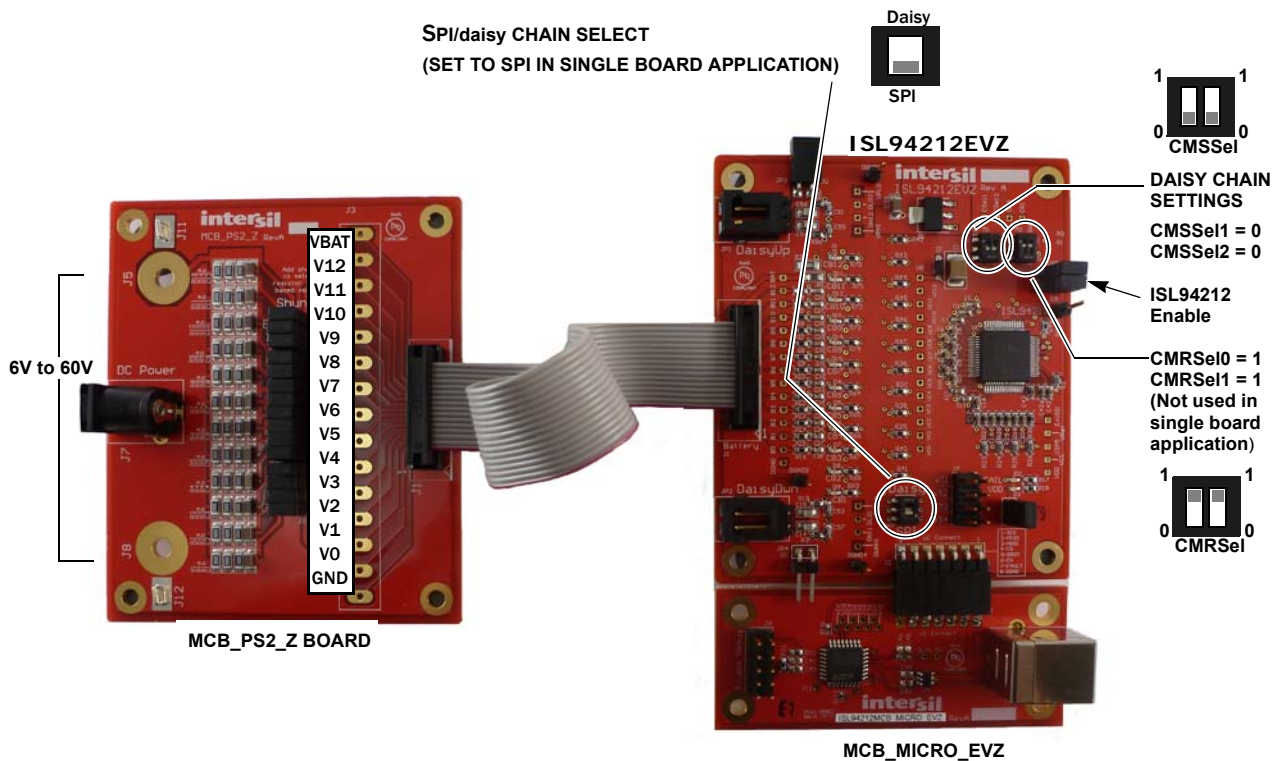

FIGURE 3. ISL94212EVKIT1Z SINGLE BOARD SETUP
Step 2: Connect the MCB_MICRO_EVZ board (J1) to the ISL94212EVZ board (J2). (See Figure 3)